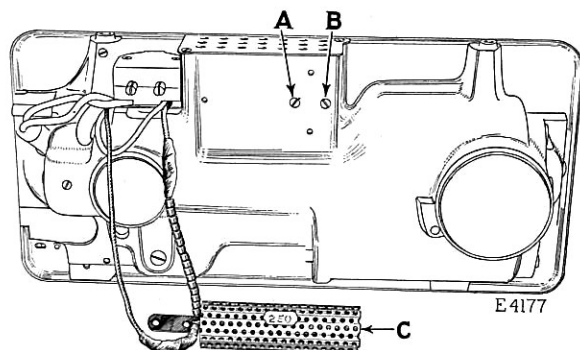

FIG. 30. RESISTANCE UNIT FOR SINGERLIGHT
Having removed the machine from the box, remove the felt wrapper which covers the resistance unit (C, Fig. 30.)
Remove the two screws (A and B, Fig. 30) and securely fasten the resistance unit (C) into position on the underside of the